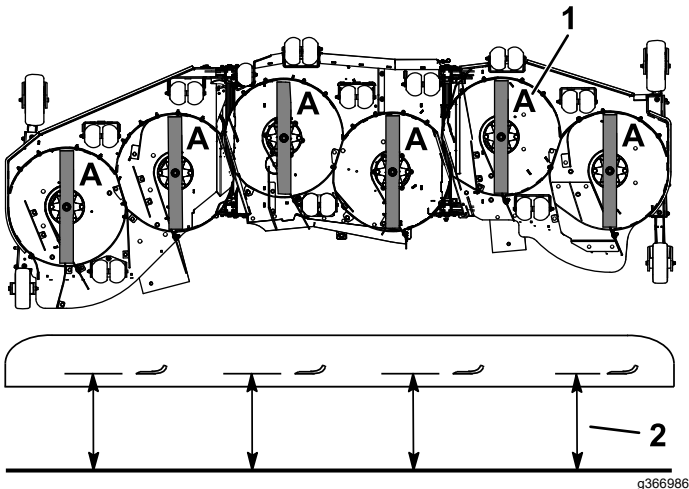

Figure 72
3. Rotate the blades until the ends face forward and backward (Figure 72).
4. Measure from a level surface to the cutting edge, position A, of the blades (Figure 72).